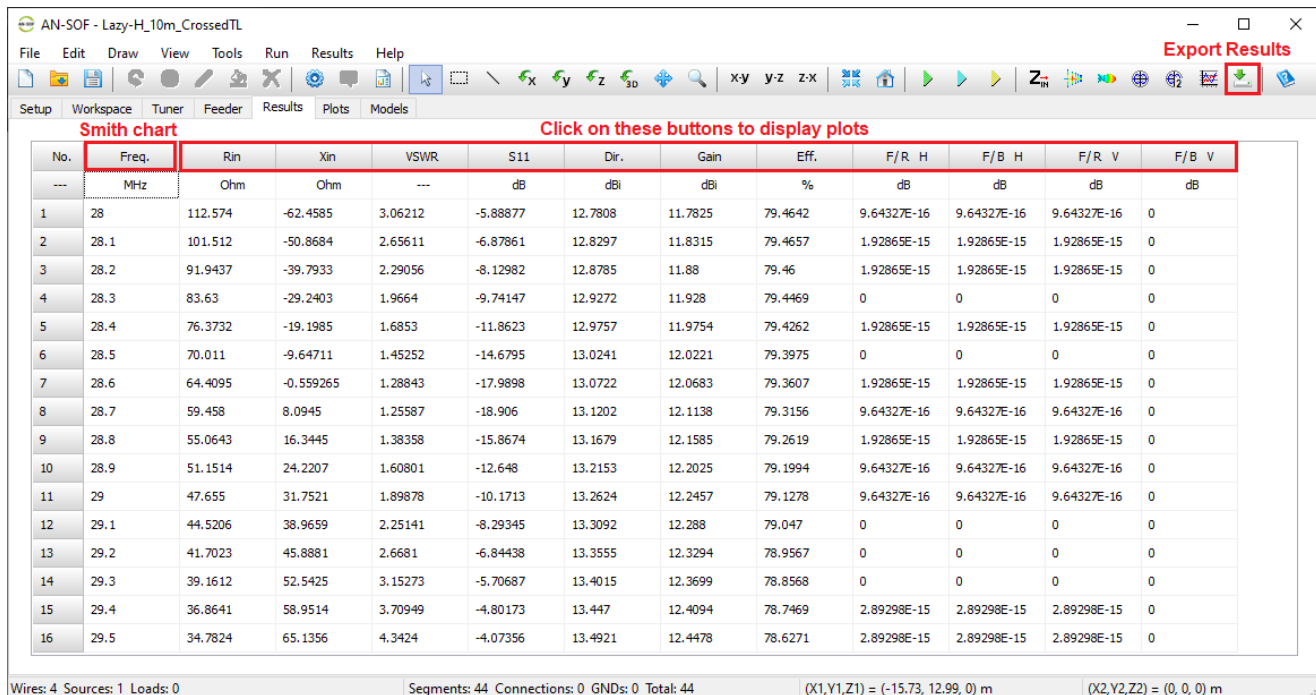

Fig. 1: Results tab in the main window, with the Export Results button highlighted in the toolbar.
The **Results** tab in the AN-SOF main window (see Fig. 1) displays a table with the primary results for a transmitting antenna, including:
This table is automatically populated only when the wire structure is excited by a **discrete source**. It will not be filled if the excitation is an **incident wave**. The tabulated results persist until a new calculation is performed, allowing you to reference them at any time, even when making changes to the project. To export these results to a **CSV** file, click the **Export Results** button on the toolbar (see Fig. 1).
3. Click the header buttons as indicated in Fig. 1 to plot these results against frequency.